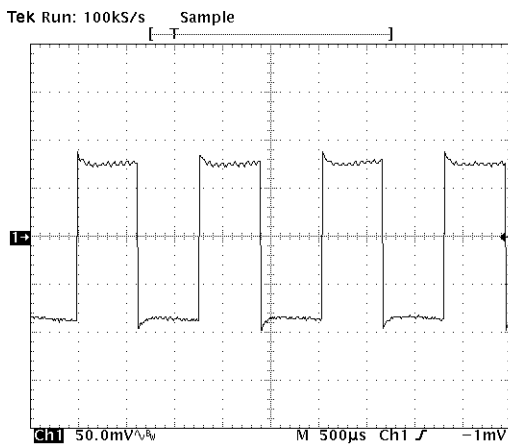

Figure 6-11: TP-11
8. With power supply “A” on, check for 175 mV_{p-p} (approximately) square wave @ 784 Hz at TP-11 (as in Figure 6-11).